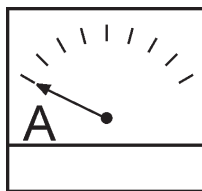

Figure 46. Ammeter (No Load)
7. The ammeter (Figure 46) will indicate **zero amps** with no load applied. When a load is applied, the ammeter will indicate the amount of current that the load is drawing from the generator.